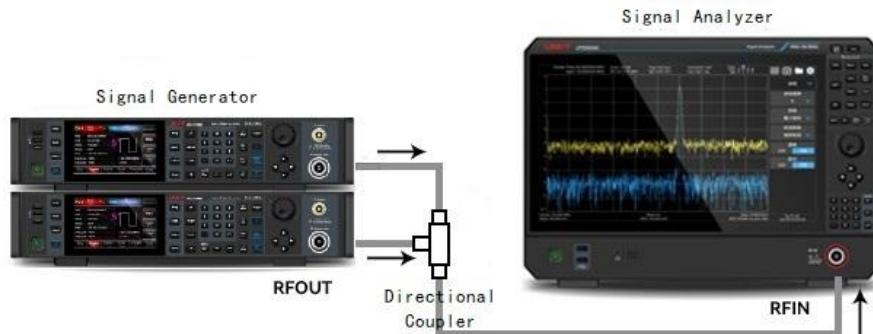

Figure 3-4 Instrument Setting for Acquiring Two-channel's Signal
- As shown in Figure 3-4, connecting two signal sources to the RF IN port of the signal analyzer via a directional coupler.
1. As shown in Figure 3-4, connecting two signal sources to the input port of the signal analyzer.